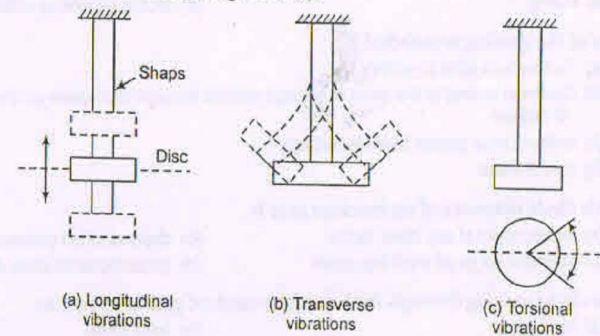

Figure 15.1
1. Longitudinal Vibrations : Consider a body of mass m as shown in Fig. 15.1 (a) carried on one end of a weightless spindle, the other end being fixed. If the mass moves up and down resulting in direct-tension and compression of spindle, it is said to execute Longitudinal vibrations.
In this case the different particles constituting the body move in parallel planes as shown in Fig. 15.1 (a).
2. Transverse Vibrations : If the body instead of moving vertically up and down vibrates in the exaggerates manner as shown in Fig. 15.1 (b) due to bending of the supporting medium, it is said to execute transverse vibrations.
In this case the particles of shaft or disc move approximately perpendicular to the axis of the shaft as shown in Fig. 15.1 (b).
In this case shaft is subjected to torsional shear stresses and shaft particles move in a circle about the axis of shaft as shown in Fig. 15.1 (c).